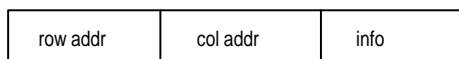

Figure 3. Data Packet
After the proper identification by the receiving device, a data train of arbitrary length is transmitted from the master. There are three transmission formats from (a) to (c) as stated below. The data train in each sequence consists of row address (R), column address (C), and display information (I), as shown in Figure 3. In format (a), display information data must be preceded with the corresponding row address and column address. This format is particularly suitable for updating small amounts of data between different rows. However, if the current information byte has the same row address as the one before, format (b) is recommended.